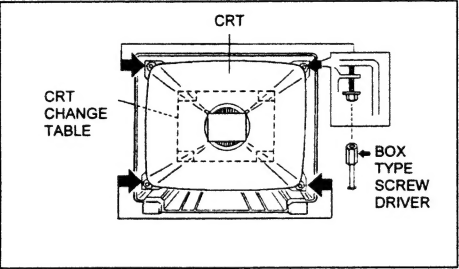

Fig. 5
- 3. Remove 4 screws marked by arrows with a box type screw driver as shown in Fig.5.